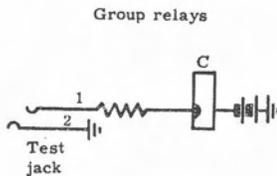

Figure 36. "Cascading" test.
6.53 "Cascading" test (figure 36). If group relay test-jack springs 1 and 2 are connected together, that group's relay C operates and starts a linefinder. Since none of the contacts in that finder's bank are marked, the finder will step to the fifth level, rotate to the eleventh step, advance the distributor, and release. The next linefinder will repeat this, and so-on. This "cascading" permits a rapid check of the vertical and rotary operations of all finders as they operate in rapid succession.